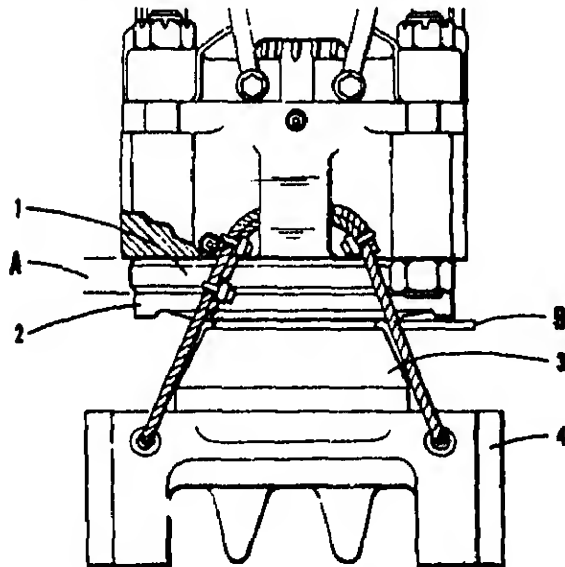

FIG. 11-4
The recoil dampener should be checked for wear weekly by measuring the distance (A), between the anvil retainer and the cushion adapter cap, as shown on Fig. 11-4. When dimension (A) becomes $1\frac{1}{4}$ " or less, the recoil dampener should be replaced. A new recoil dampener measures $1\text{-}3/4$ " thick.
- (b) Remove driving head cable sling, Fig. 11-4.
Although the adapter assembly affords protection to the pile, its express purpose is to protect the Hammer. The disc assembly should be checked for compression weekly. Extrusion of the aluminum discs and deterioration of the plastic discs make compression of the assembly visibly noticeable. The original gap (B) is 5/8" with new discs and when it is reduced to 1/4", the aluminum and plastic discs should be replaced. See Fig. 11-4.
The clearance between cap, Fig. 11-4, and adapter cap can be measured usually with the assembly in operating position as shown. The use of certain driving heads may not permit taking an accurate measurement to determine amount of wear and it may be necessary to loosen cable sling and lower driving head to take measurement.